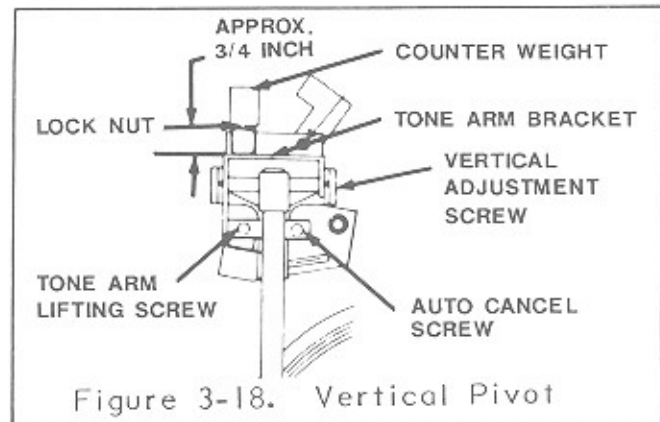

Figure 3-18. Vertical Pivot
1. The stylus force should be three to four grams. If a gram gage is not available, an approximate force can be set by adjusting the distance between the tone arm weight and the tone arm bracket. This distance should be 3/4 inch for 3-1/2 grams stylus force (see figure 3-18).